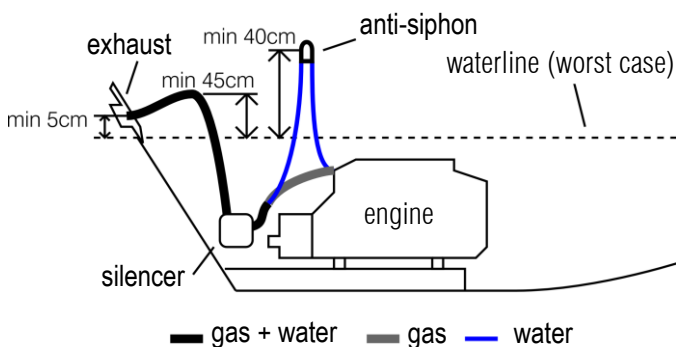

Figure 28 - Engine exhaust in configuration B
2. Case B, discharge subjected or less than 15 cm above the waterline – Figure 28 sotto. In this case it is necessary to remove the sea water supply sleeve between the manifold and the exhaust elbow on the engine and install an anti-siphon at the minimum height of 40cm from the waterline, so as to avoid the risk of return of water to the exhaust when the engine is stopped. The two circuits (water and gas) to be joined again in a lower point of the discharge line before the silencer. Use a gooseneck exhaust geometry with the highest point at a minimum height of 45cm from the waterline. Check with the manufacturer of the silencer the correct installation position.